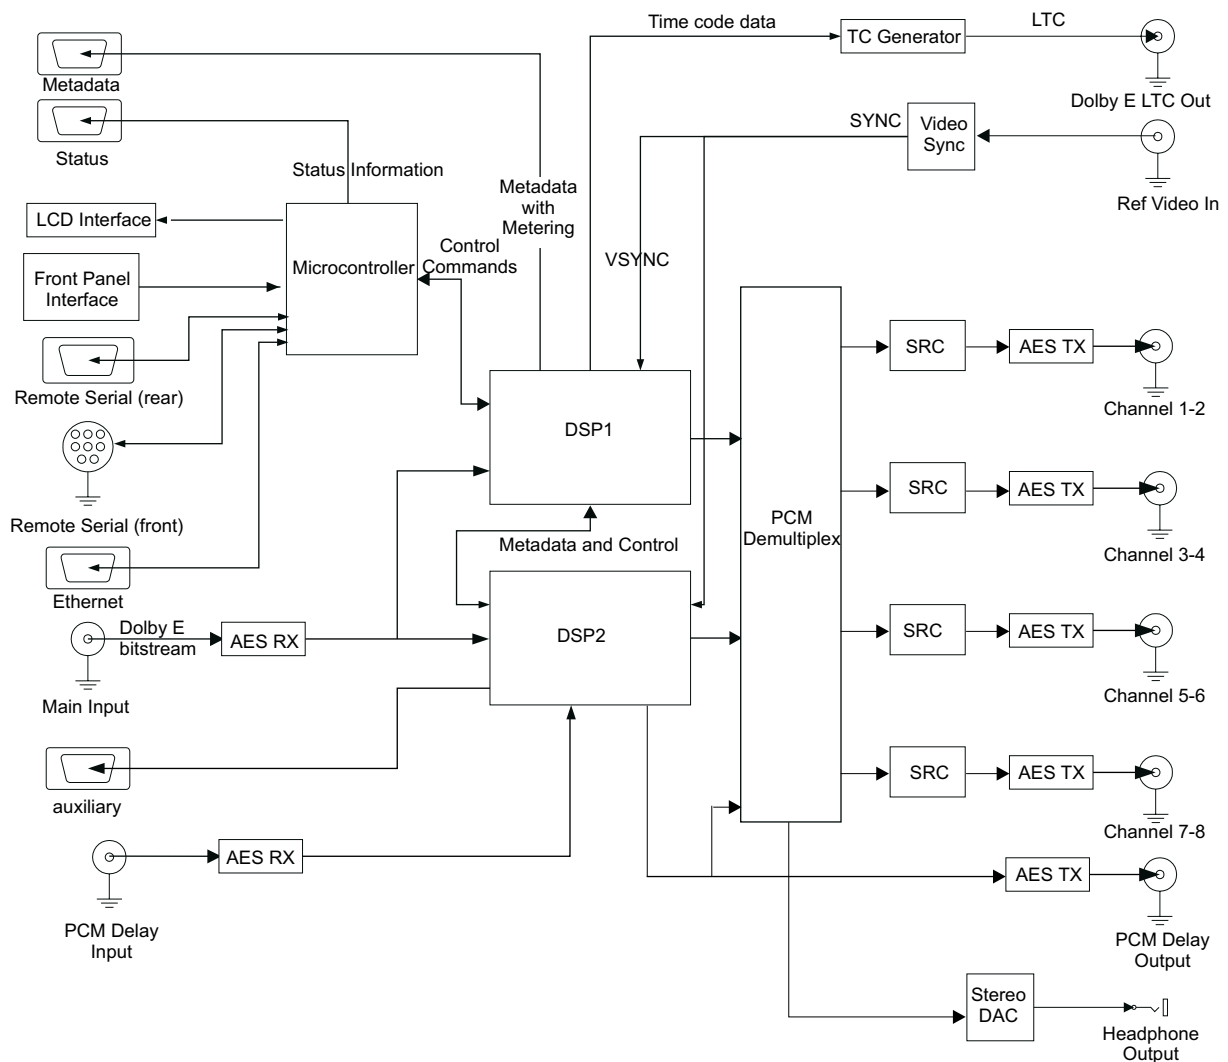

Figure 4-1 DP572 block diagram
- Figure 4-1 – block diagram of the DP572